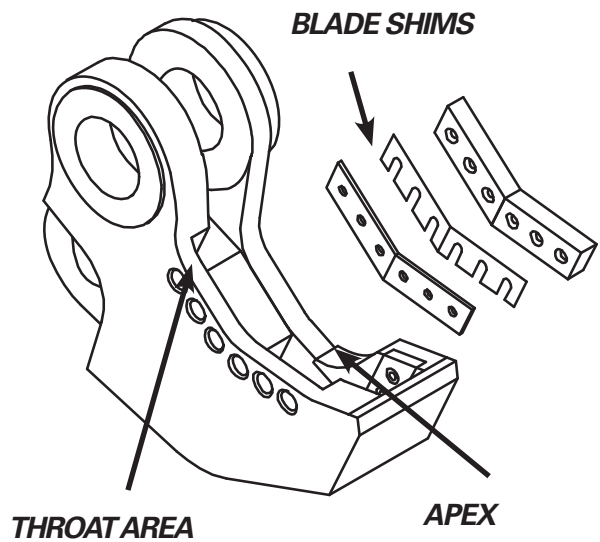

FIGURE 7-38
2. Cycle the jaws closed so the secondary blades start to bypass at the apex (see Figure 7-38). Check the gap at this point using a feeler gauge and record this measurement also. If the blades have been rotated properly, the gap in the secondary blades should be fairly even for the entire span of the blades.